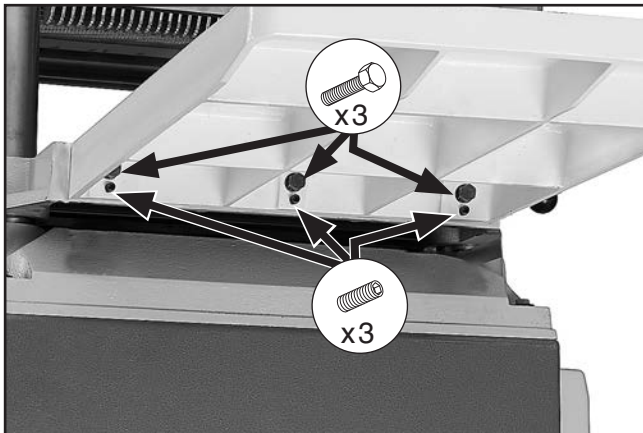

Figure 10. Extension table mounting locations.
1. Attach each cast-iron extension table (see **Figure 10**) to planer table with (3) M8-1.25 x 25 hex bolts. Do not fully tighten hex bolts at this time.
2. Thread (3) M8-1.25 x 20 set screws into each extension table at locations shown in **Figure 10**.